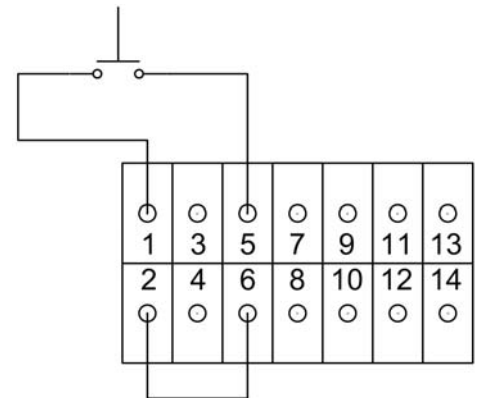

Figure 13. 24VAC Internal
- Connect the green jumper wire (supplied) to terminals 1 & 5 (see Figure 13).